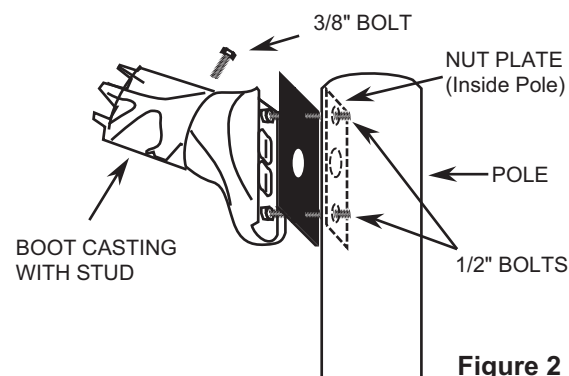

Figure 2
2. There are 2 boot castings, one has a stud protruding out mounting side. With this boot casting in hand, round portion pointing upward, peel backing off one gasket and line up with holes in casting. Line up holes of casting with holes in pole. Using ratchet with 6" extension and 3/4" socket, thread top captive bolt into nut plate (supplied with fixture hardware kit). Insert 1/2" x 2" bolt and lock washer into lower bracket hole, and thread into nut plate (See Fig. 2). Repeat for T90, D180, TN120, D70, and Quad.